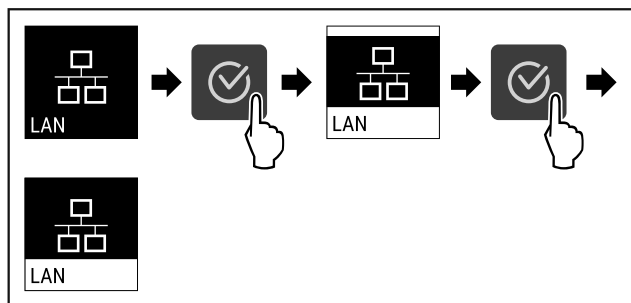

Fig. 92
- Complete the steps (see Fig. 92).